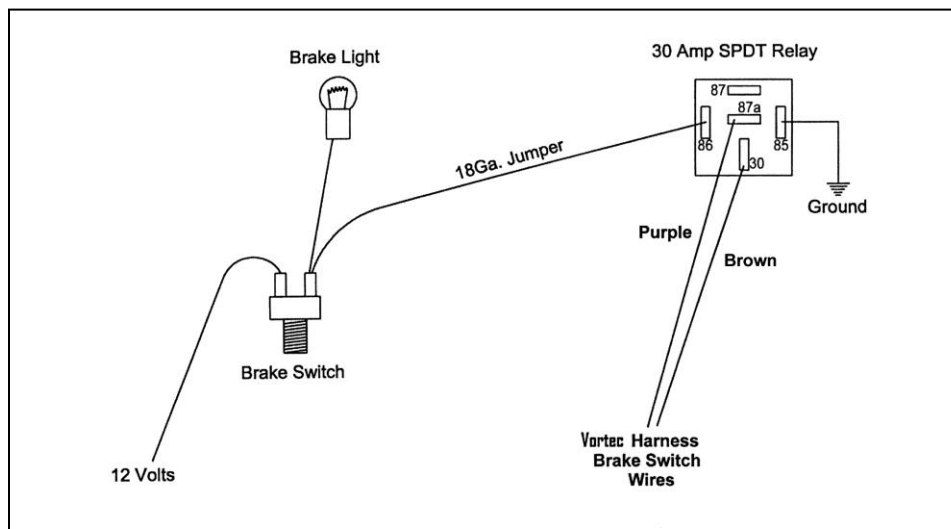

FIGURE 6.3 Brake Switch Relay
- 4.1.1** If you are using the 4L80E transmission, you must use the vehicle speed sensor (VSS), and the correct brake switch. These are necessary to make the transmission work correctly. The vehicle speed sensor lets the computer know how fast the wheels are turning. The brake switch should be closed (electrically connected) when the brakes **ARE NOT** being applied and open (not electrically connected) when the brakes **ARE** being applied. This is the opposite of a standard brake light switch. If you are using a pressure brake switch, a **SPDT** relay must be installed to unlock the converter when the brakes are applied. **See Figure 6.3**
- F. If your vehicle has a pressure type brake switch, you may use a relay as shown in **Figure 6.3**. The relay must be a **SPDT Relay** and wired correctly or it could result in a dangerous situation with the vehicle. The torque **converter may not unlock**.